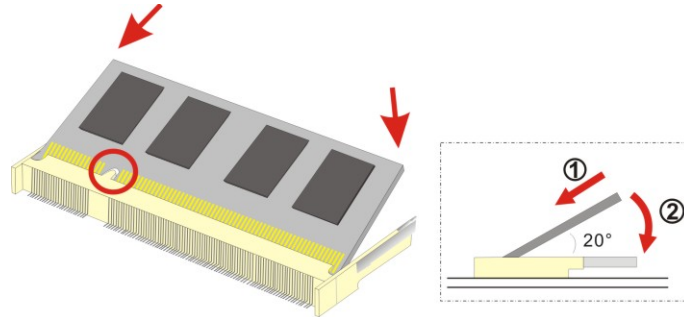

Figure 4-1: SO-DIMM Installation
To install an SO-DIMM, please follow the steps below and refer to **Figure 4-1**.
- Step 3:** Insert the **SO-DIMM**. Push the memory in at a 20° angle. (See **Figure 4-1**)
- Step 4:** **Seat the SO-DIMM**. Gently push downwards and the arms clip into place. (See **Figure 4-1**)